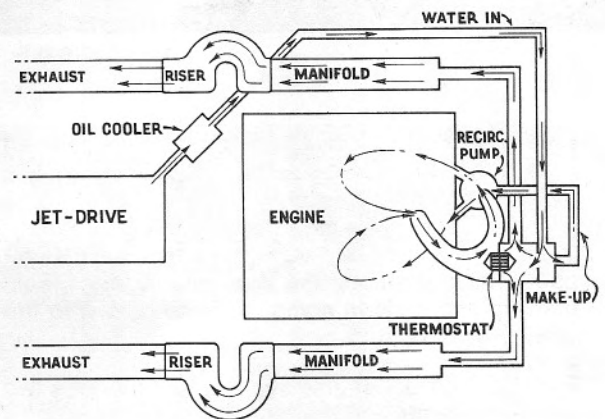

Figure 3
A. COOLING SYSTEM This system is a thermostatically controlled make-up type circulating system (Figure 3). Water is continuously circulated throughout the engine by a low pressure, high capacity automotive pump. An excess flow of cool water under minimal pressure is always available to the system from the Jet-Drive. The pressure-balanced thermostat opens as the engine reaches operating temperature and hot water leaves the system, allowing cool water to replace it. The volume of hot water which is replaced by cool water is controlled by the amount of thermostat opening. Thus a constant operating temperature is maintained under any condition, whether idling for long periods of time or running wide open.